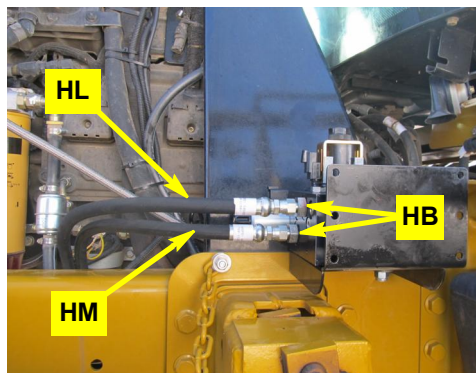

Figure 5b: Pressure and tank hoses installed at steering block
- b. Connect the pressure and tank hoses **HL** and **HM** to adapter fittings **HB** in the **P** and **T** ports on the hydraulic steering block (Figure 5b).